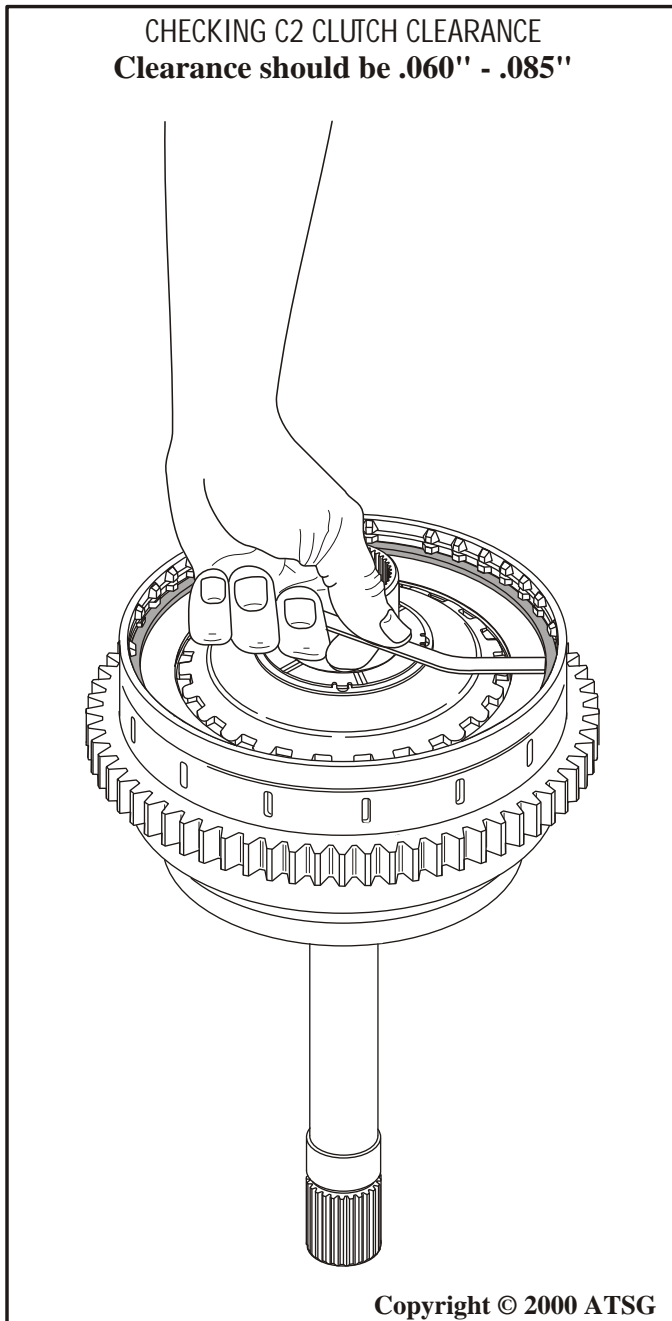

Figure 117
36. Install the P1 planetary drive flange snap ring into the **lower** groove in the clutch housing, as shown in Figure 117.
37. Check the C2 clutch clearance using a feeler gage, as shown in Figure 117.
Note: Correct C2 clutch clearance should be .060" - .085" (See Figure 117). There are no selectives for C2 clutch. If the clearance is not correct, there is a mis-assembly.